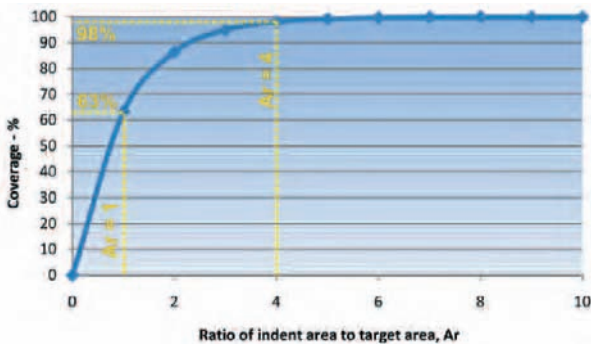

Fig.2 Exponential variation of coverage with ratio of indent area to target area.
Coverage increases as **Ar** increases. The rate of increase falls with increasing **Ar**. Fig.2 shows the exponential shape of equation (1). Two particular **Ar** ratios, **Ar** = 1 and 4, have been highlighted. If, for example, one pass imposed an indent ratio of 1, we would predict 63% coverage. An indent ratio of 4 would give a predicted 98% coverage. 98% coverage is specified as “full coverage” in J2277.
Table 1 gives the coverage values shown in fig.2 for corresponding integral values of **Ar**. Coverage values are quoted to three decimal places even though such precision has no practical significance. We cannot measure coverage to three significant figures – they are included purely to indicate that 100% is never reached.